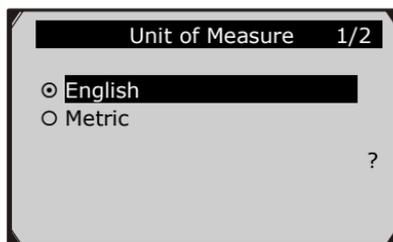

Figure 3.6
- 2) From **Unit of Measurement** screen, use the **UP/DOWN** scroll button to select the desired unit of measurement. (Figure 3.6)